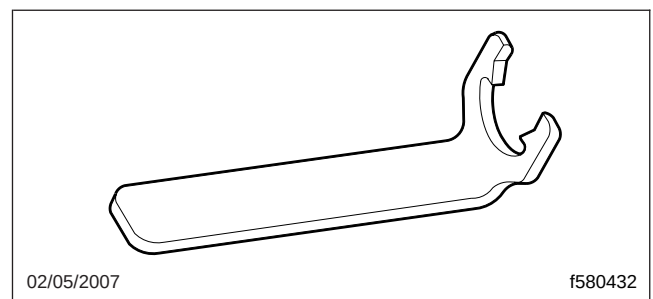

Fig. 15, Kent-Moore Tool J48548
- 14.2 The Kent-Moore QLD tool (see Fig. 15) is the proper tool to use when disconnecting the fittings.